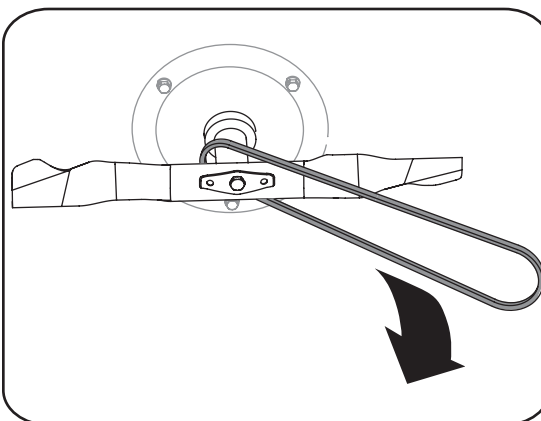

Figure 5-5
3. Push transmission up a little and slide belt off the transmission pulley. Lift mower to access belt from underside of mower. Slide belt off of engine pulley and around the blade. See Figure 5-5.